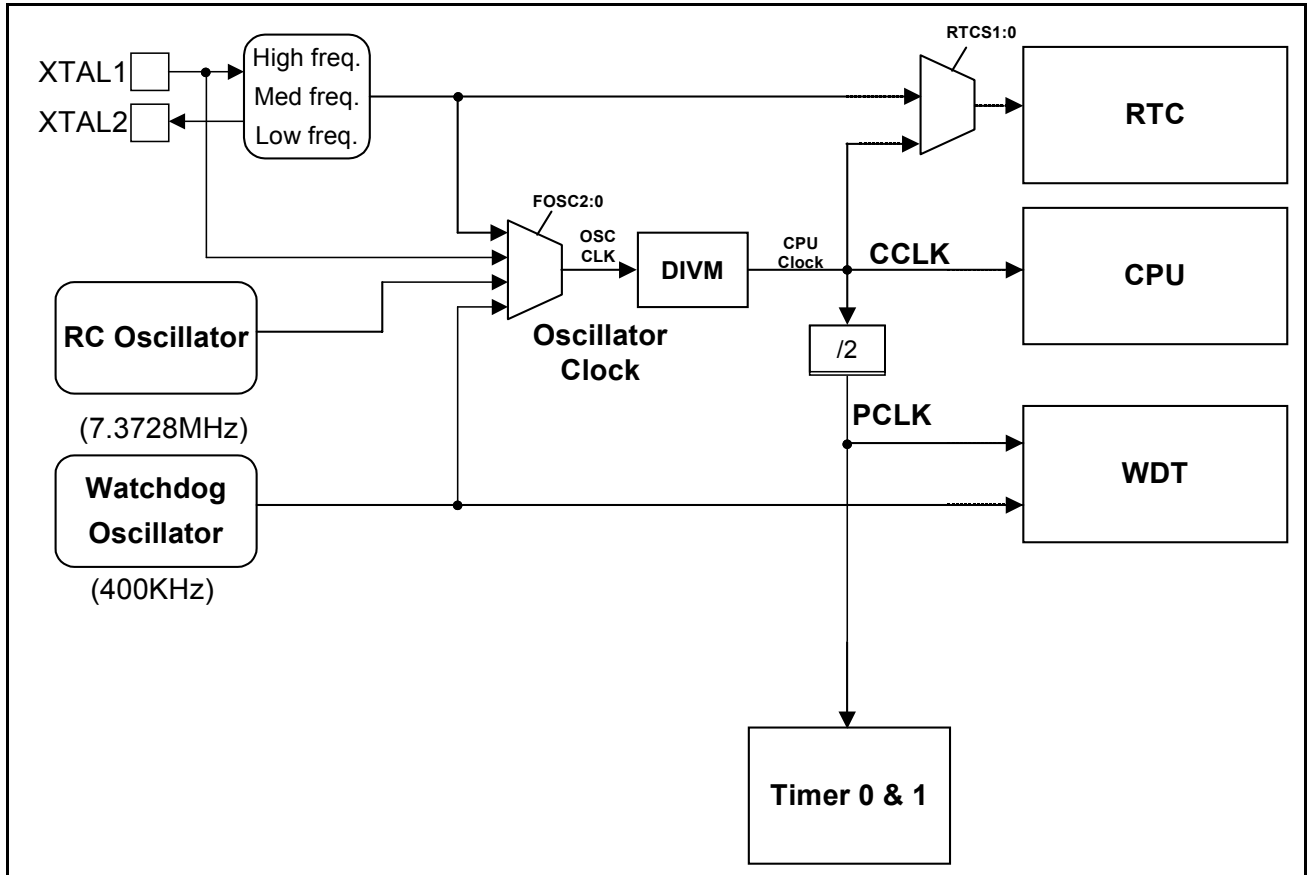
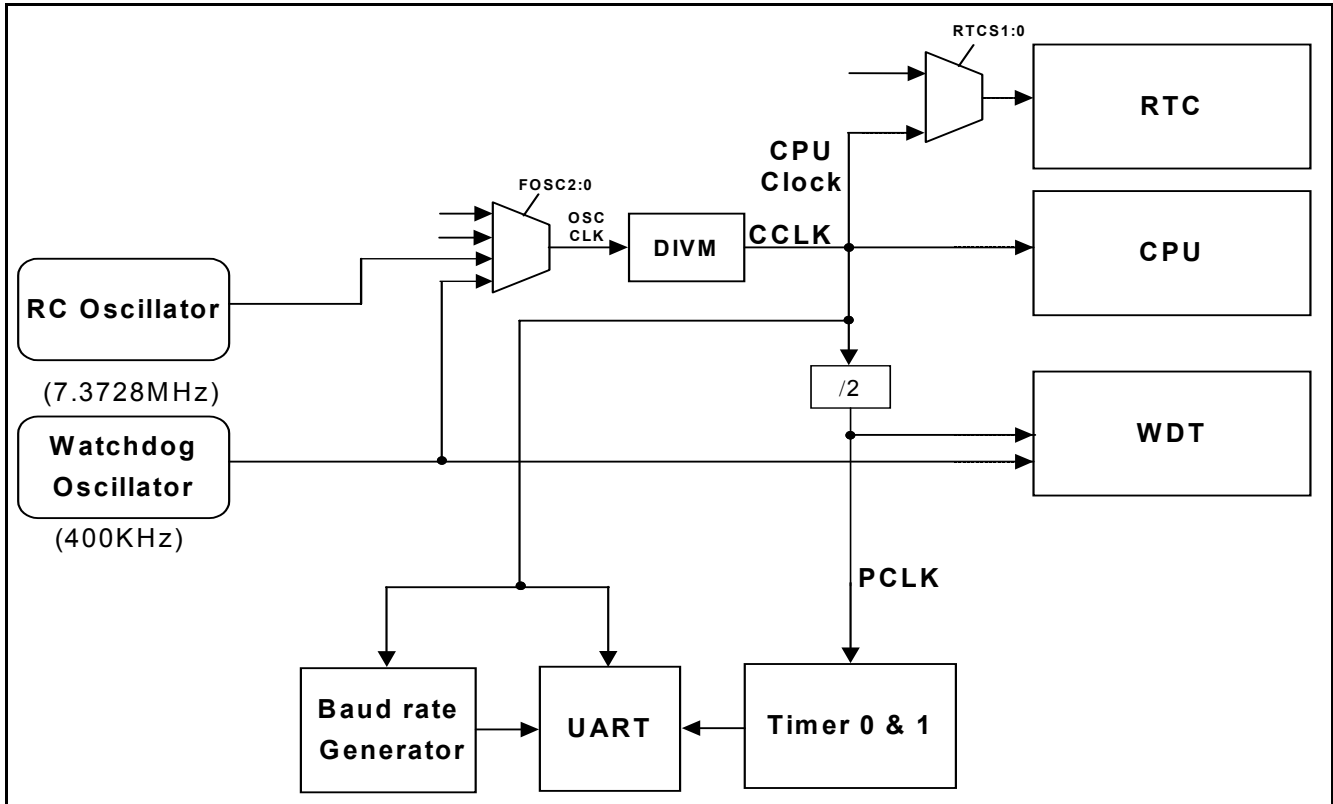

Figure 2-3: Block Diagram of Oscillator Control - P89LPC906
Figure 2-4: Block Diagram of Oscillator Control- P89LPC907,P89LPC908
- OSCCLK - Input to the DIVM clock divider. OSCCLK is selected from one of the clock sources (see Figure 2-3, Figure 2-4,) and can also be optionally divided to a slower frequency (see section "CPU Clock (CCLK) Modification: DIVM Register"). **Note:** f_{OSC} is defined as the OSCCLK frequency.